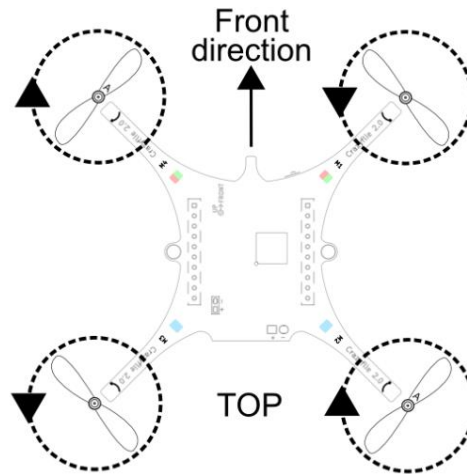

Figure 52. Spin direction for the motors.
8. With the soldering done, install the propellers on the motor, taking the spin direction into consideration (see **Figure 52** for direction and **Figure 53** for reference). Then, insert the battery to test that all 4 motors are working. If they are, they should **spin briefly in the correct direction** after you insert the battery and provide power to the PCB.